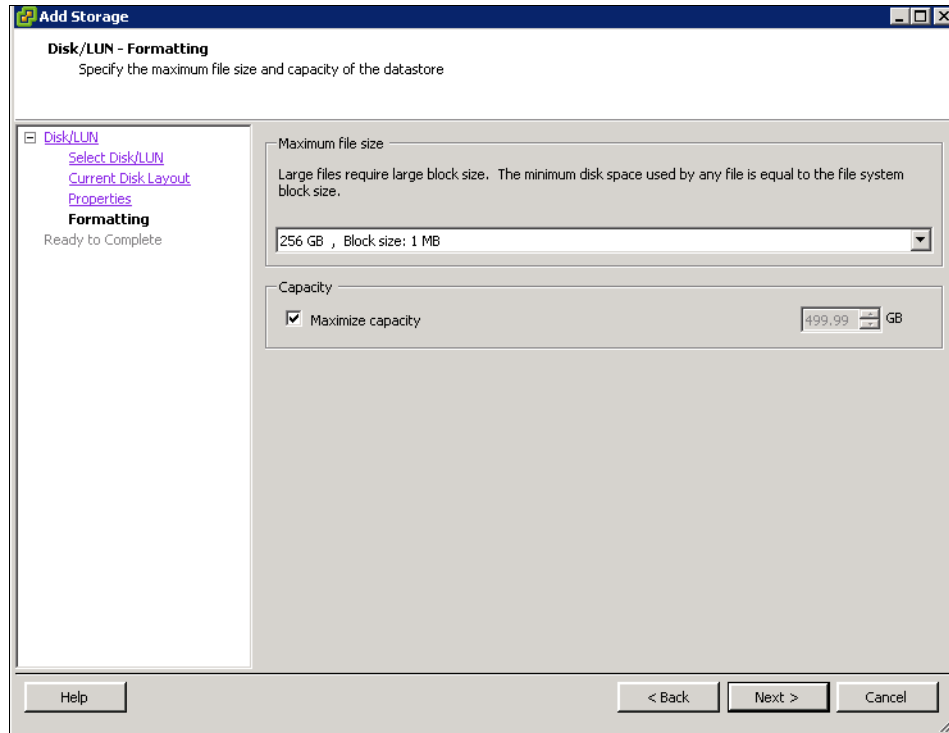

Figure 12-56 Maximum file size
11. Select the maximum file size and click **Next** (Figure 12-56).